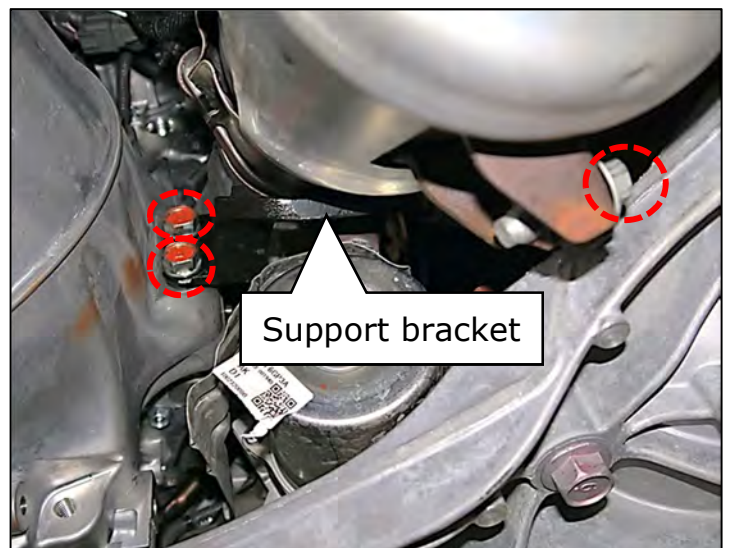

Figure 74
75. Install the RH catalytic converter support bracket and start the (2) bell housing bolts and the (1) catalytic converter bolt by hand. (Figure 74)